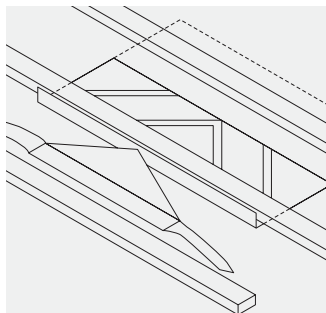

Fig. 86 – Mark throat position and cut underlay
- 2 At the position the ventilator is required, align the throat between two tile battens, and mark the throat position before cutting through the underlay as shown (Fig. 86).
- 3 Fold the three flaps upwards and outwards to provide the hole for the ventilator throat (Fig. 86).